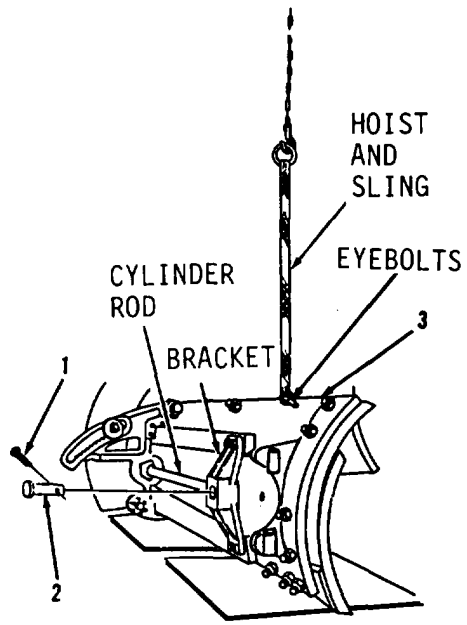

Figure 12-5.
- 8. Operate blade sideshift control and expand cylinder rod to align with bracket on blade assembly (3, Figure 12-5).
- 9. Install pin (2) and new cotter pin (1).
- 10. Operate blade sideshift control to retract cylinder rod and blade assembly (3) in place.
- 11. Remove remaining side of hoist and sling and second of two eyebolts from blade assembly (3).